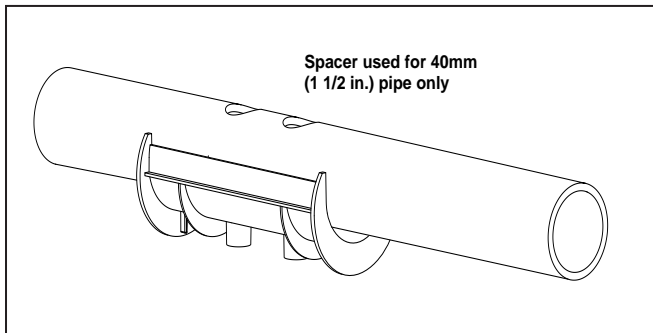

Figure 8. Pipe Spacer
9. Use the pipe spacer as shown if mounting on a 40 mm (1½ in.) pipe (see Figure 8).